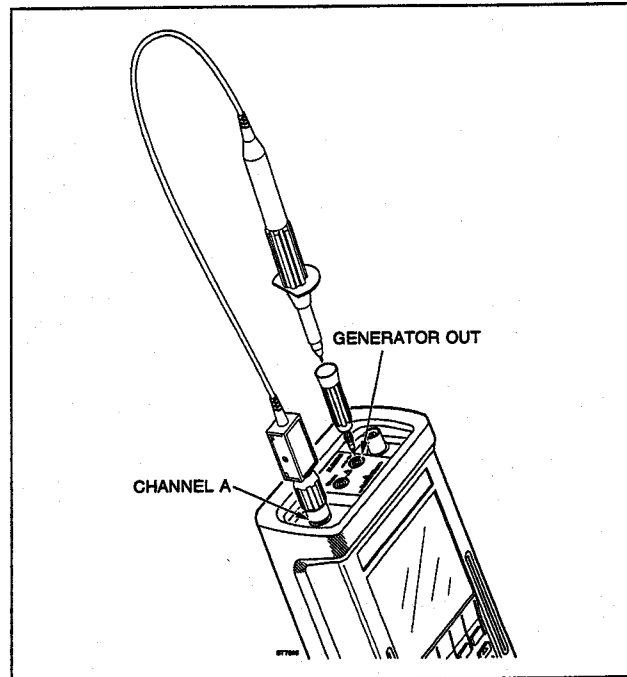

Figure 7.3 Performance Test Setup
- Connect the red scope probe to the CHANNEL A BNC input and, using the 4 mm banana adapter, to the GENERATOR OUT red banana jack (see Figure 7.3).